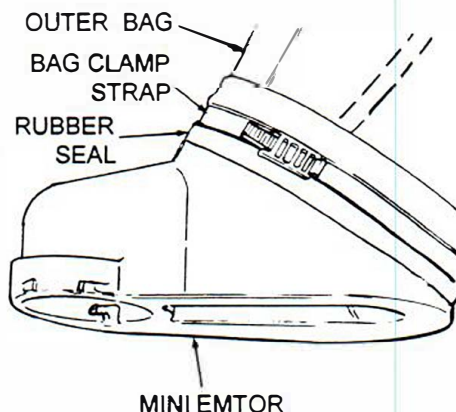

Figure 37. Bag Clamp Strap Position
- F. Install a bag clamp strap around and into the groove of Mini Emtor at lower edge of rubber collar. Raised cross bar lock of strap must face away from Mini Emtor. Lock connection must be positioned on the inside center wall of Mini Emtor and face right side of motor. See Figure 37.